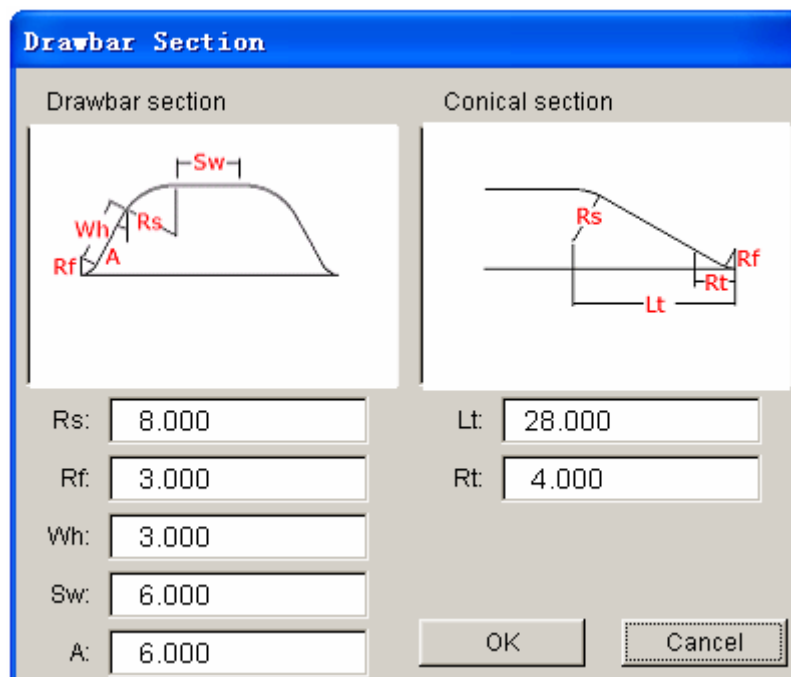

Figure 6.5.10 Parameters for Tear Drop Tail
2. DRAW BAR ENDS WITH A CONICAL SHAPE (TEAR DROP TAIL). Figure 6.5.10 shows the parameters in the dialog box.